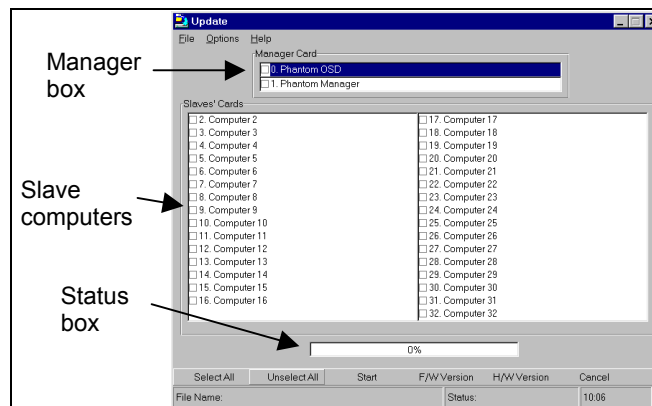

Figure 8-2 The Phantom Update window
1. From the **Start** menu, choose **Programs/Phantom Update/Phantom Update**. The **Phantom Update** window appears. See Figure 8-2.